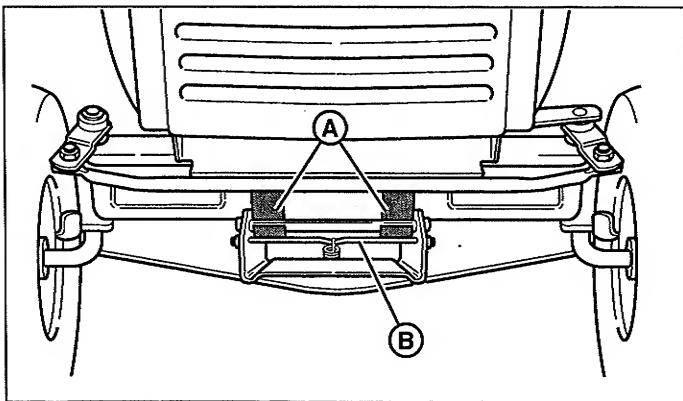

Figure 11. Mower Hitch
6. Turn wheels straight ahead. Pull back on spring-loaded lever (B, Figure 11) and lift mower hitch off of the tractor brackets (A).